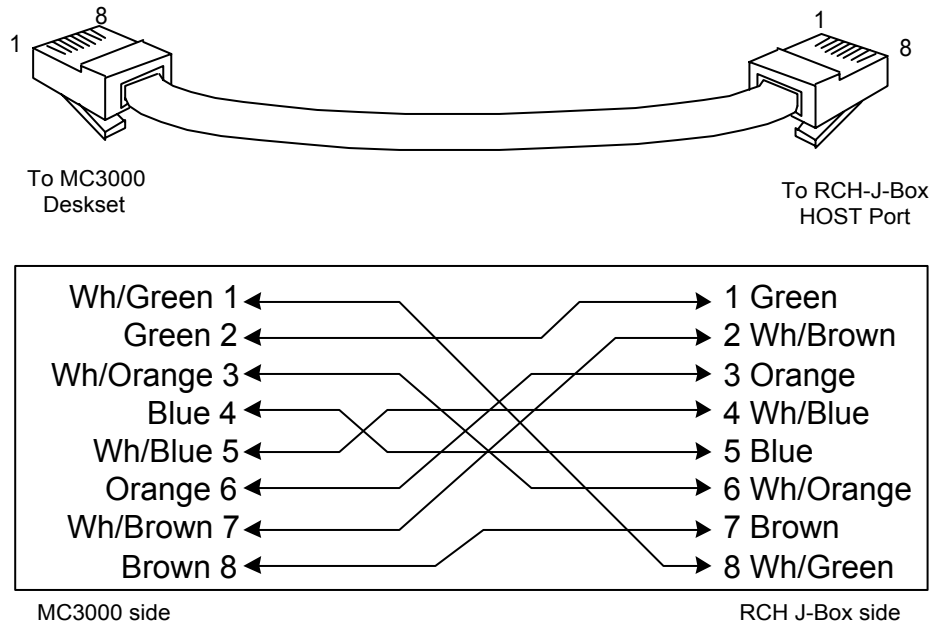

Figure 2-10: Specially Wired Cable for MC3000 Deskset with RCH Junction Box
The deskset can be connected via an 8-wire CAT-5 cable (4 wires for audio and 4 wires for data) to an RCH Junction Box (CDN1337, CDN6304, CDN6683) which is then connected to the radio. Figure 2-10 shows how the cable must be constructed.
2. Ensure the wiring of the cable is exactly as per Figure 2-10.